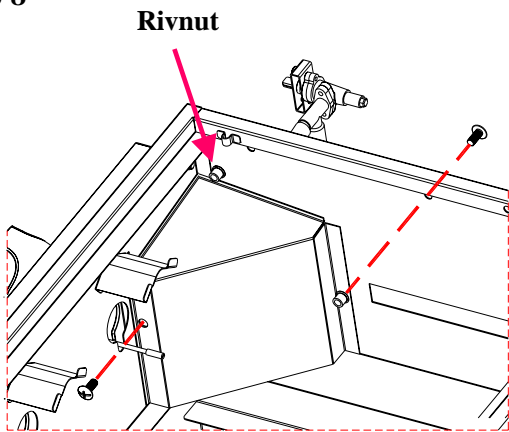

Fig.8
*Locate:* HVR Cover and (2) M6x15 bolts
*Procedure:* Refer to Fig. 8 and set the HVR Cover in the front corner of the Gas Grill Cabinet, so that it covers the actual HVR where it enters and exits the Cabinet. Fasten in place with (2) M6x15 bolts.